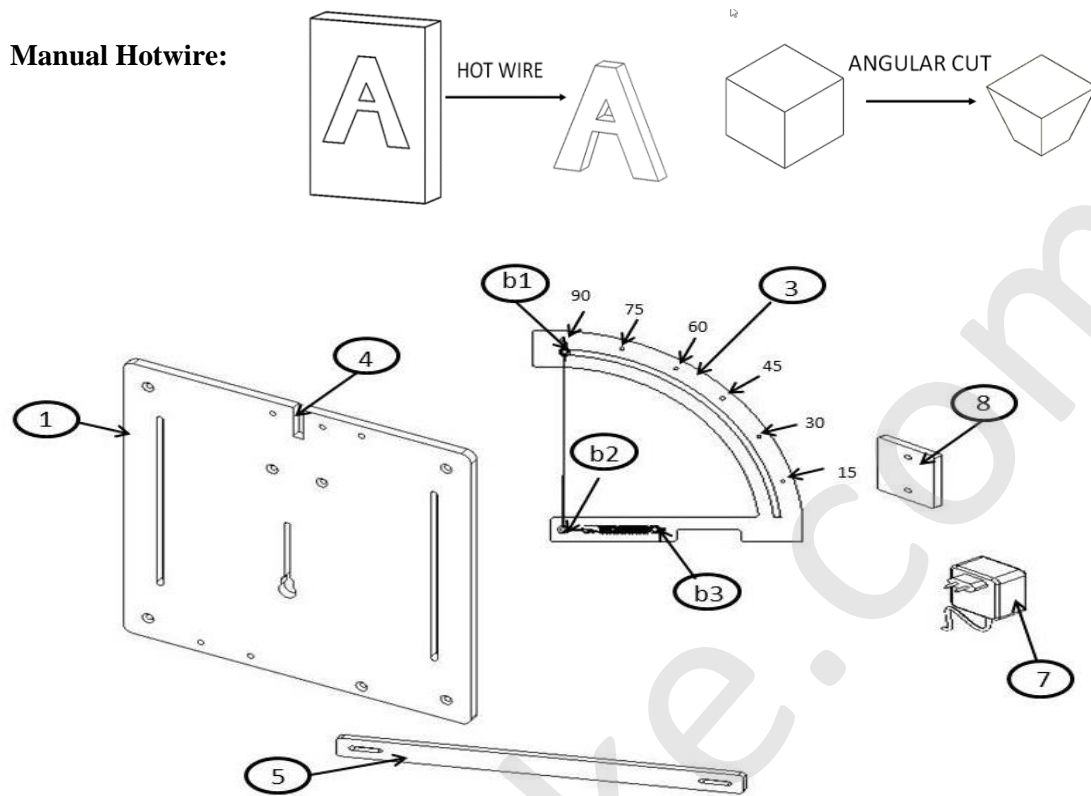

Figure 3
- You can start using the machine immediately (After attaching supplied NiChrome wire to bolts b1 b2 b3 as shown in Fig3) by connecting adaptor to bow-cutter and using it as a hand-held tool.
Step 4: Connect string on arc plate, on bolts b1, b2 & b3, as shown in Figure3. (Make sure that the spring is at the bottom side).